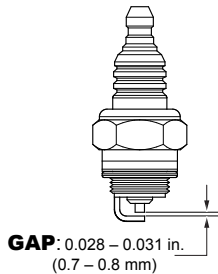

Figure 20. Spark Plug Gap
3. Remove and clean the spark plug (See Figure 20), then adjust the spark gap to 0.028~0.031 inch (0.6~0.7 mm). This unit has electronic ignition, which requires no adjustments.